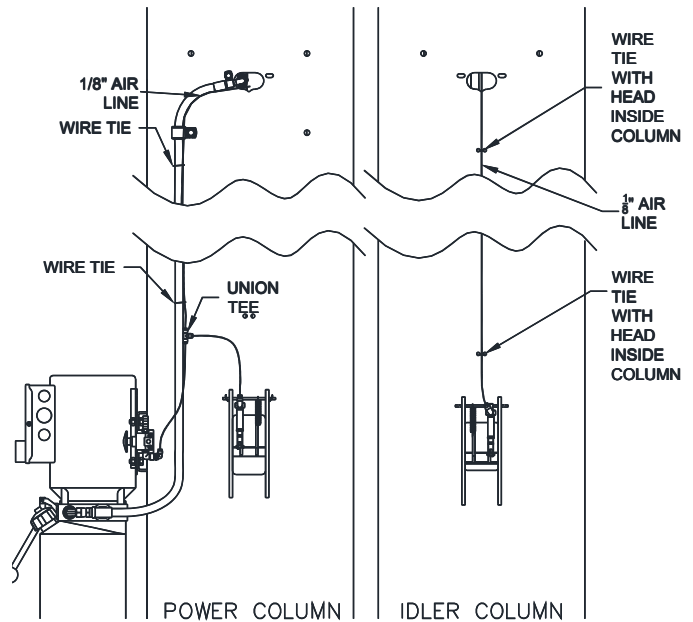

Fig. 17 – Lock Release
- 52) Connect the rest of the 1/8" air line to the top of the tee and run it along side the hydraulic hose up the column and across the overhead attaching it to the hydraulic hose with wire ties (**Fig. 17**).
- 54) Secure the air line to the Idler Column using black wire ties through the double holes in the middle of the column. Place the head of the wire ties inside the column. Cut the air line to length and attach it to the idler side lock release air cylinder (**Fig. 17**).